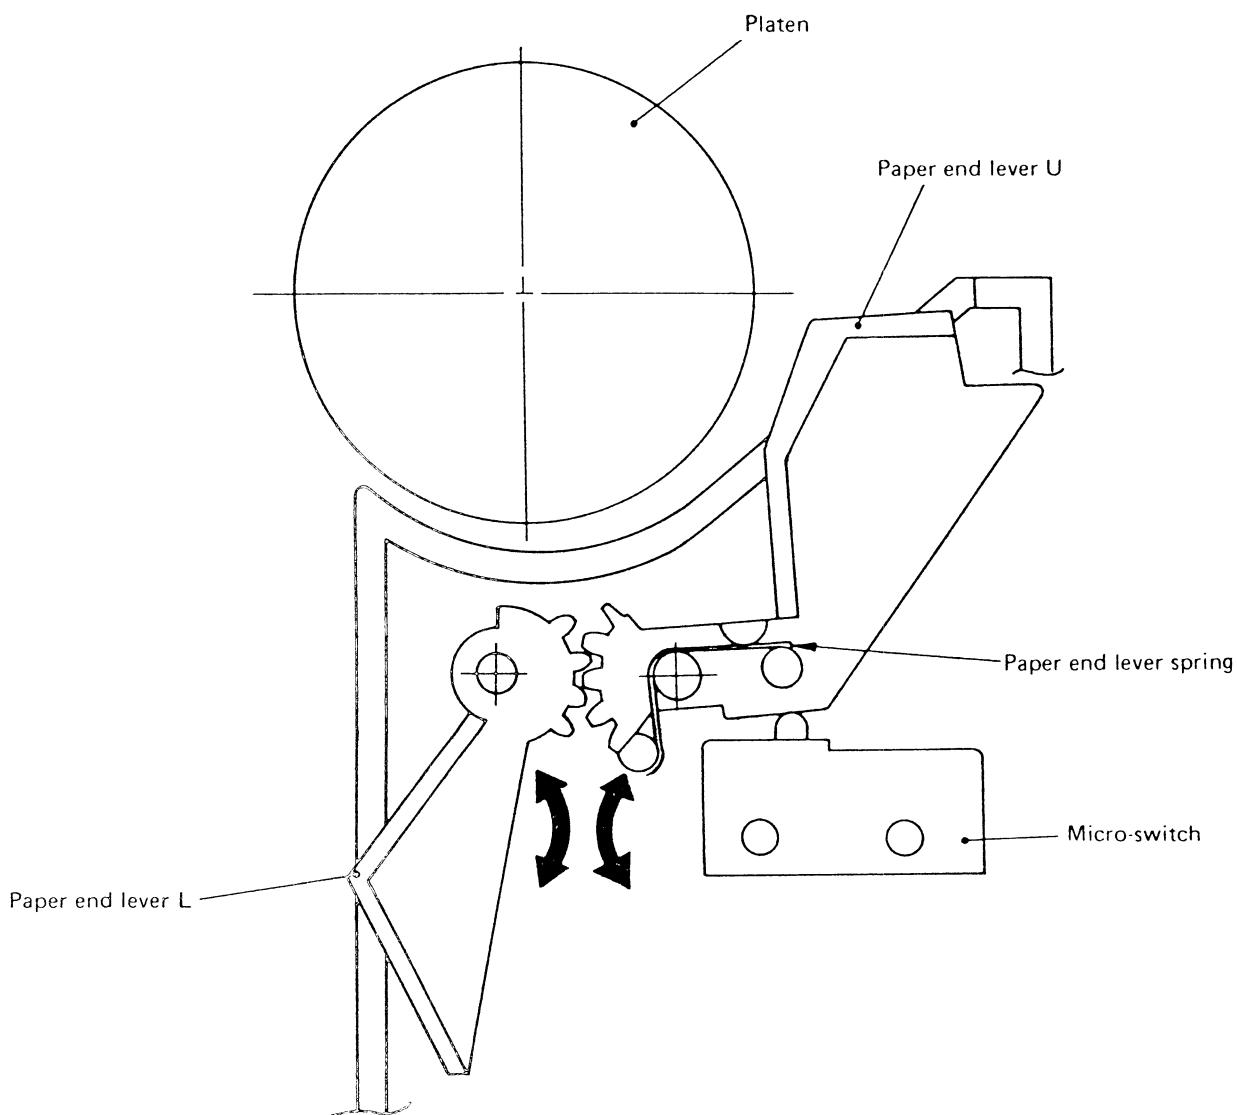

Fig. 6
## (2) Paper out detection mechanism (see Fig. 6)